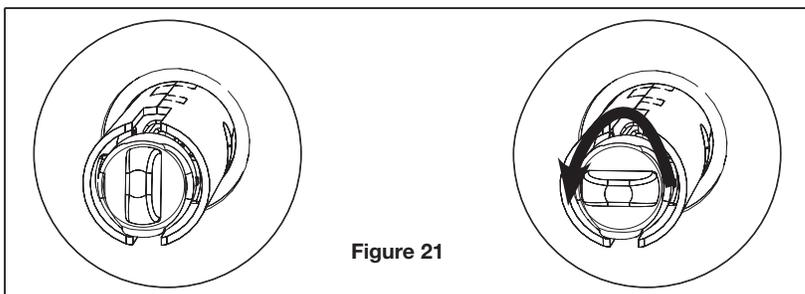

Figure 21
17. Rotate thumbturn counter-clockwise to horizontal position (Fig. 21).